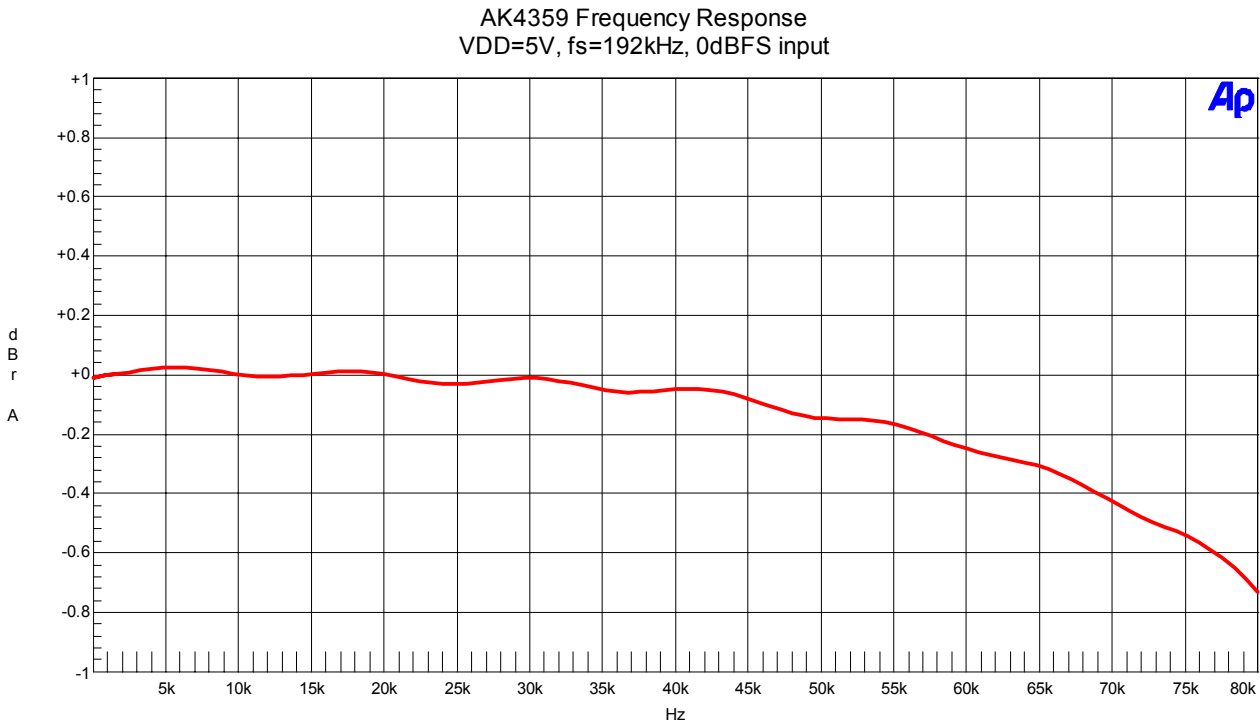

Figure29. Frequency Response (Input level=0dBFS)
- Figure29. Frequency Response (Input level=0dBFS)